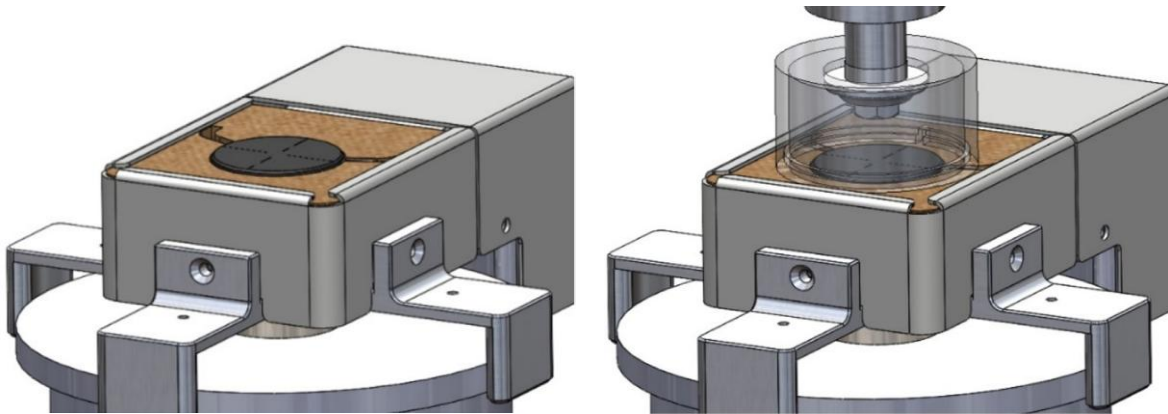

Figure 3.6 The PLX-HotStage platen
8. Place the sample on the PLX-HotStage platen. The proposed test location should be approximately under the indentation axis, which coincides with the centre of the platen (marked with four lines and shown in Figure 3.6).